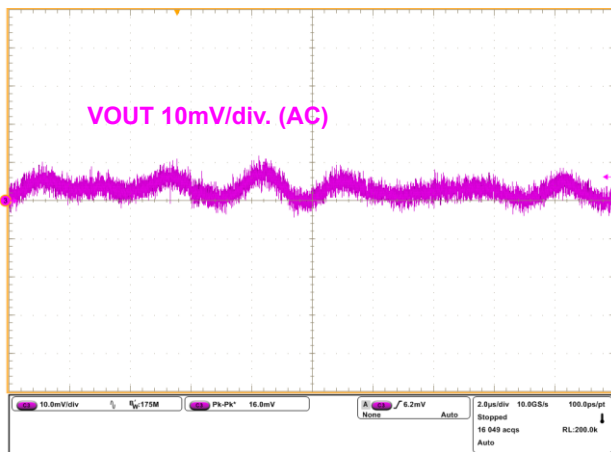
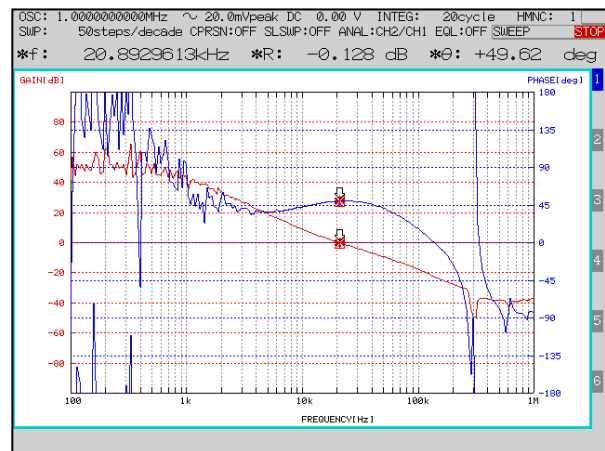

Figure 12. Output Ripple Voltage
Figure 15. Frequency Characteristics
p.6 Update Figure 12, 13 and add Figure 15